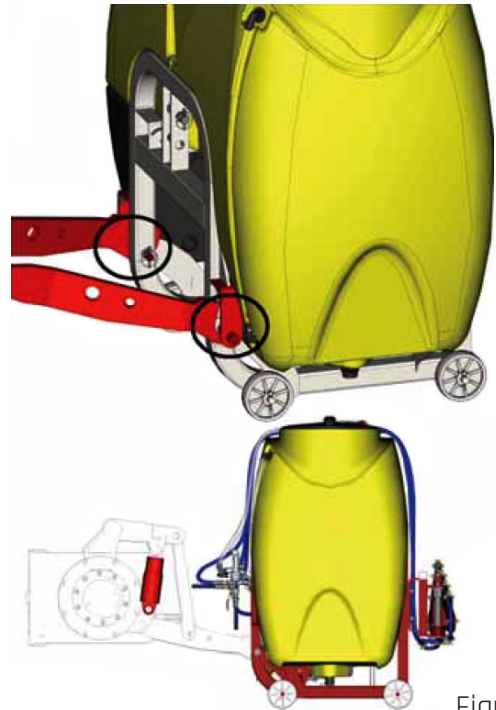

Figure 7
27) The machine can be mounted to any tractor of suitable power with a 3-point suspension system. Bring the lower hydraulic lifting arms of your tractor by maneuvering in a way that they will approach the lower connecting pins of the machine. Get off the tractor and attach the safety pins by connecting the lifting arms on the right and left to the pins. **(Figure 7)**